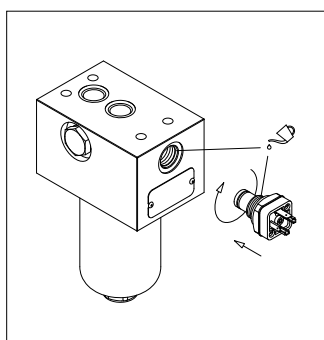

fig. 11
- (Fig. 11) Lubricate with the operating fluid the thread and the O-ring of the indicator body, then screw the indicator body in referring to the tightening torque table in paragraph 3